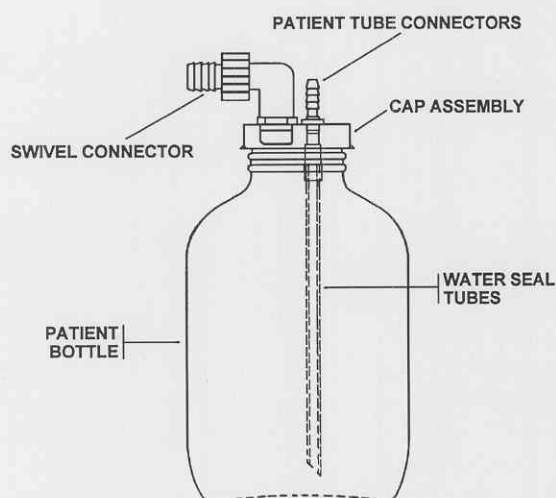
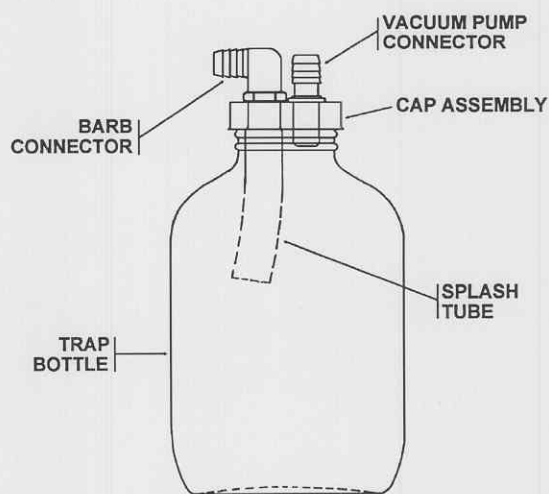

Figure 2-1. Patient bottle.
Figure 2-2. Trap bottle.
a. Patient bottle (fig 2-1).
- (1) Unscrew the cap assembly from the patient bottle. Set the bottle aside.
- (2) Install the two water seal tubes onto the cap assembly.
- (3) Replace the cap assembly onto the patient bottle.
- (4) Place the patient bottle into its brackets on the right side of the base assembly.
b. Trap bottle (fig 2-2).
- (1) Unscrew the cap assembly from the trap bottle. Set the bottle aside.
- (2) Install the splash tube onto the cap assembly.
- (3) Replace the cap assembly onto the trap bottle.
- (4) Place the trap bottle into its brackets on the left side of the base assembly.